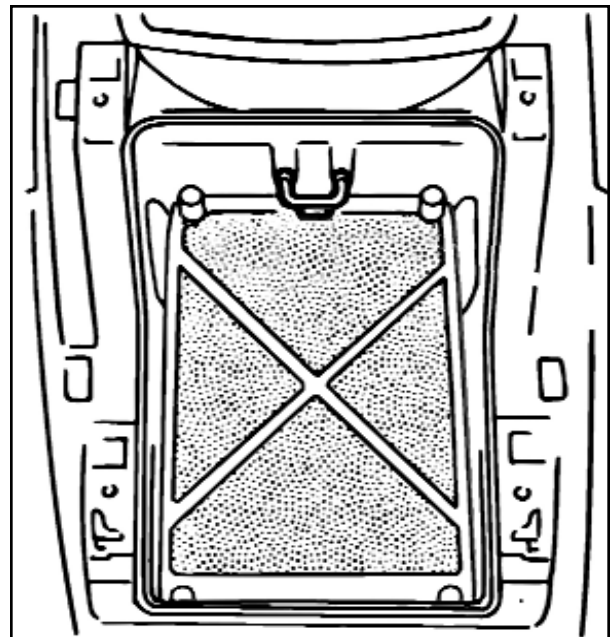

Fig. 2
5. Reinstall the air filter holder. (Fig. 2)